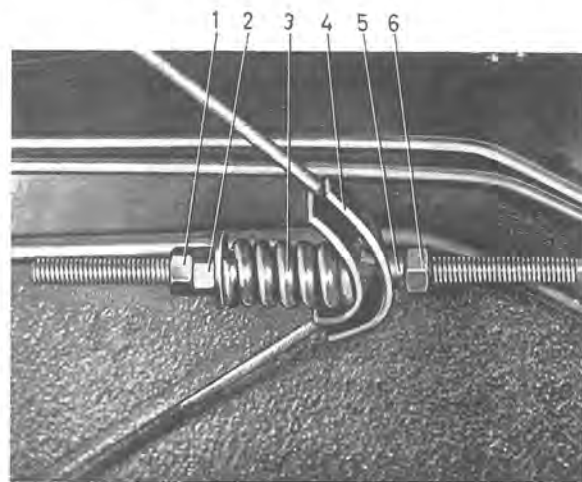

Fig. 5-82. Brake components, right-hand drive
3. Remove the puller (7, Fig. 5-81) or the clevis (4, Fig. 5-82). Remove the wheel from the cable.
1. If new linings or drums are to be fitted, slacken the pulley (7, Fig. 5-81) or the clevis (4, Fig. 5-82) to remove tension in the cable.